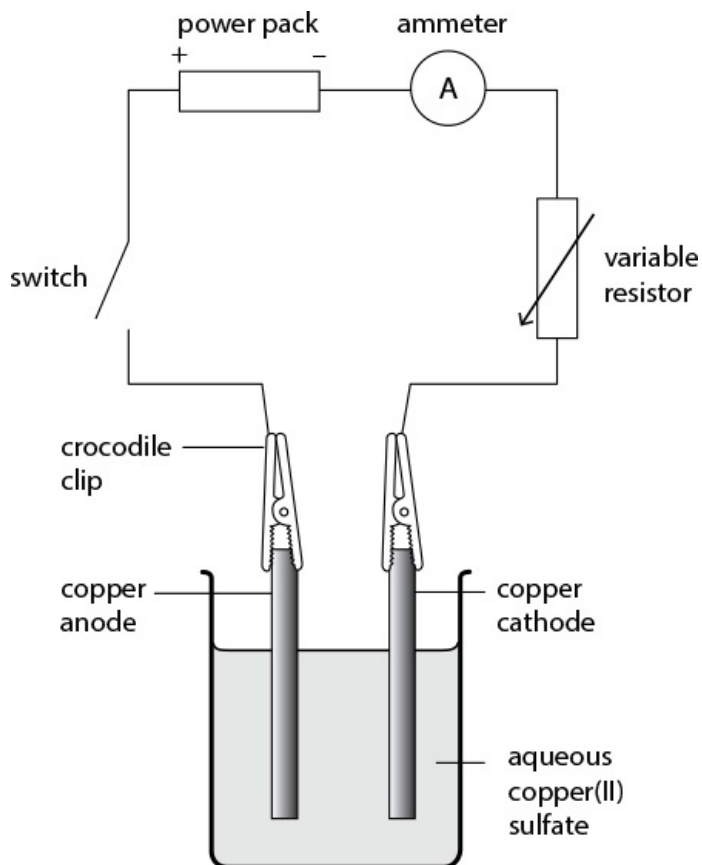

Figure 12.1a: Determining the Faraday constant
- 7 Arrange the apparatus as shown in Figure 12.1a, leaving the switch open and the variable resistor at maximum resistance.